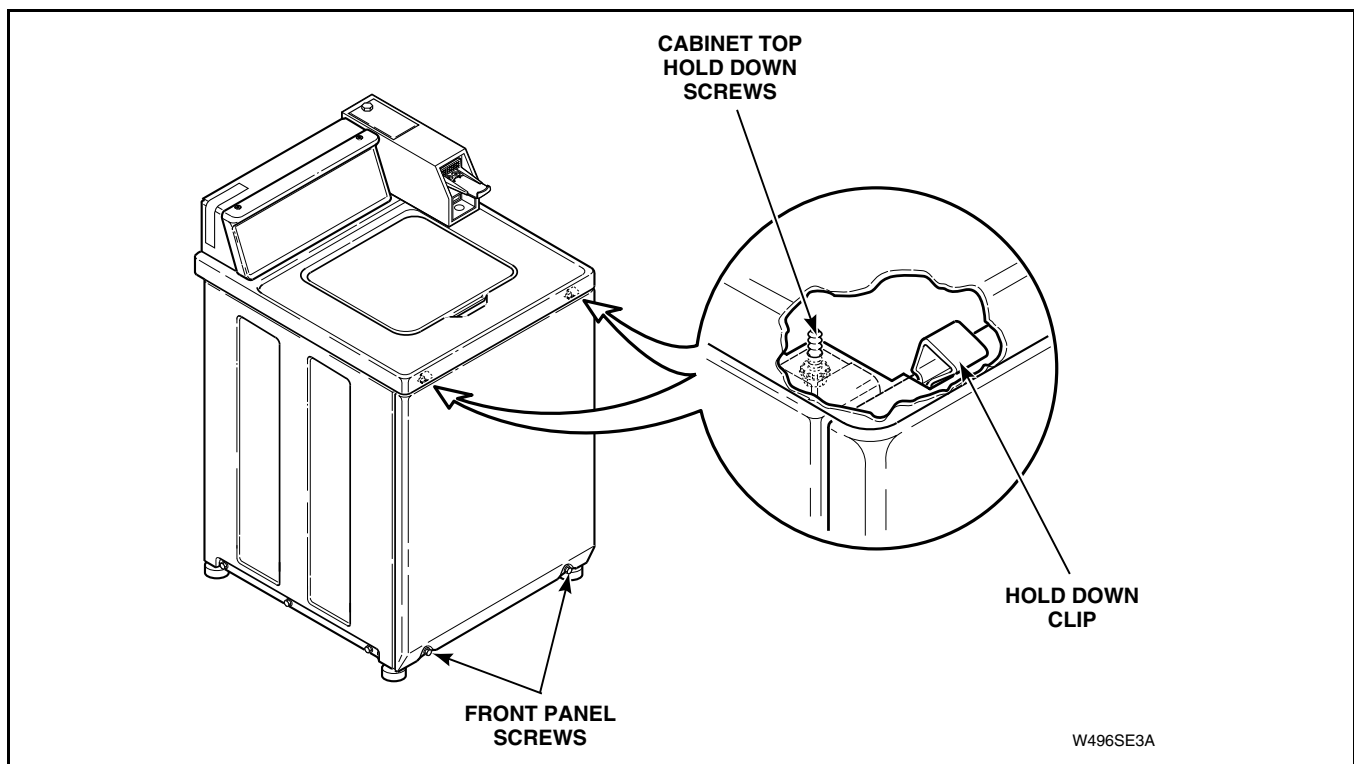

Figure 37
Refer to *Figure 37*
- a. Remove two screws from bottom edge of front panel. Refer to *Figure 37*.
- (1) Unlock and remove meter case service door.
- (3) Slide timer and bracket toward rear of meter case to disengage bracket from shoulder screw. Lift timer and bracket out of meter case through service door opening as far as wires will permit.
- (4) Remove shoulder screw from inside meter case.
- (5) Remove two cabinet top hold down screws. Refer to *Figure 37*.
- (6) Remove security bolt (if present) from left rear corner of cabinet top.
- f. Remove two screws from bottom edge of front panel. Refer to *Figure 37*.